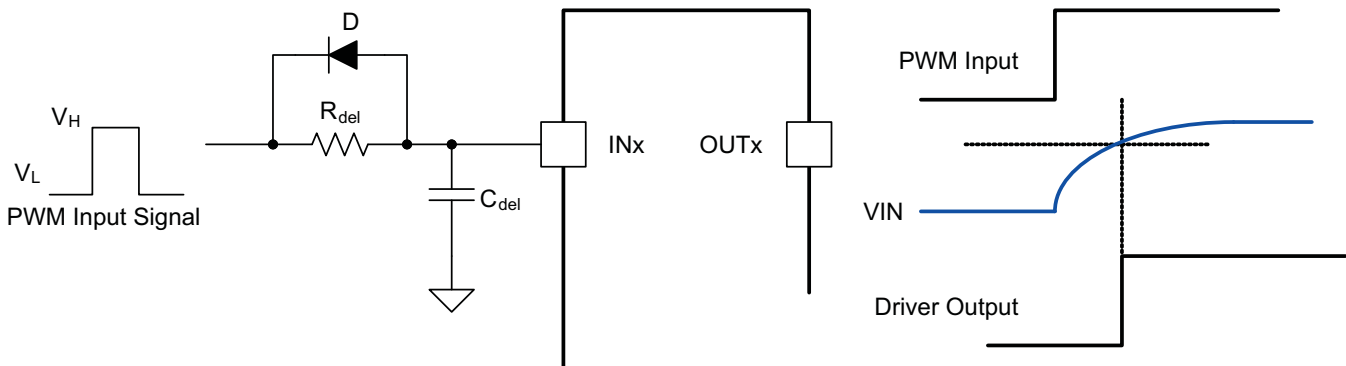

Figure 24. Using RCD Circuits
- Ability to accept slow  $dV/dt$  input signals, which allows designers to use RCD circuits on the input pin to program propagation delays in the application, as shown in Figure 24.